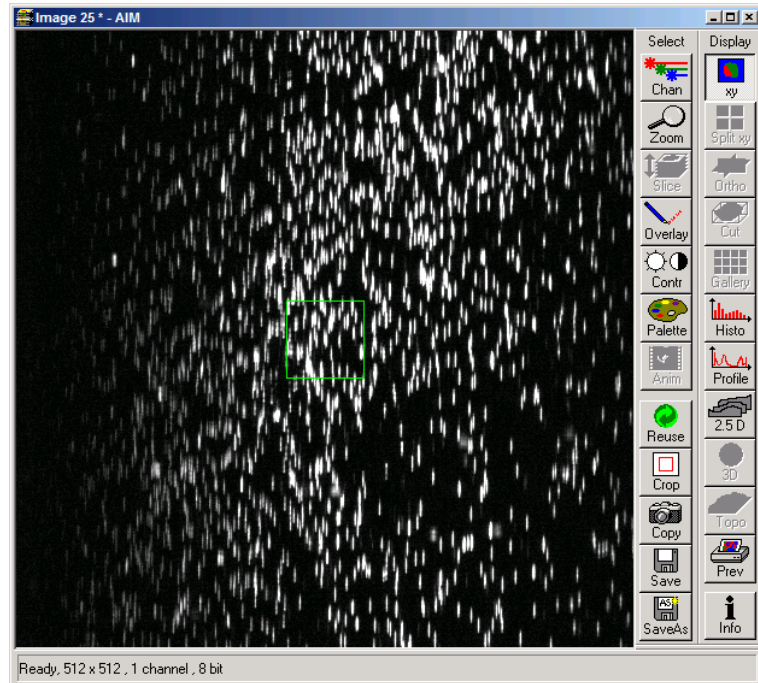

Fig. 4-177 Beads focused for maximal vertical thinness
- Focus with the microscope focus drive to get the vertical lines as thin as possible (Fig. 4-177)